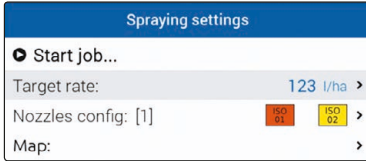

Fig. 244
- Set the spray rate value for the spraying (Fig. 244). Press **OK** to confirm the set value.